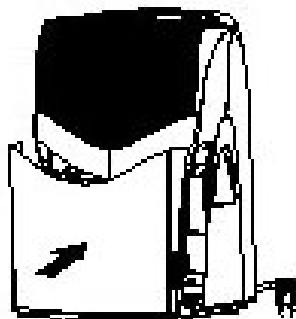

FIG. 4
4. Put the water tank back to its position (FIG. 4).